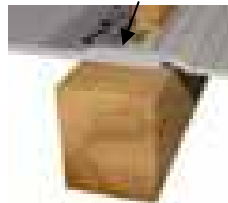

Fig 4A
7. It is IMPORTANT to fold all finishing edges under by 50mm minimum, staple every 50mm, and secure with a final batten. Figs 4A and 4B